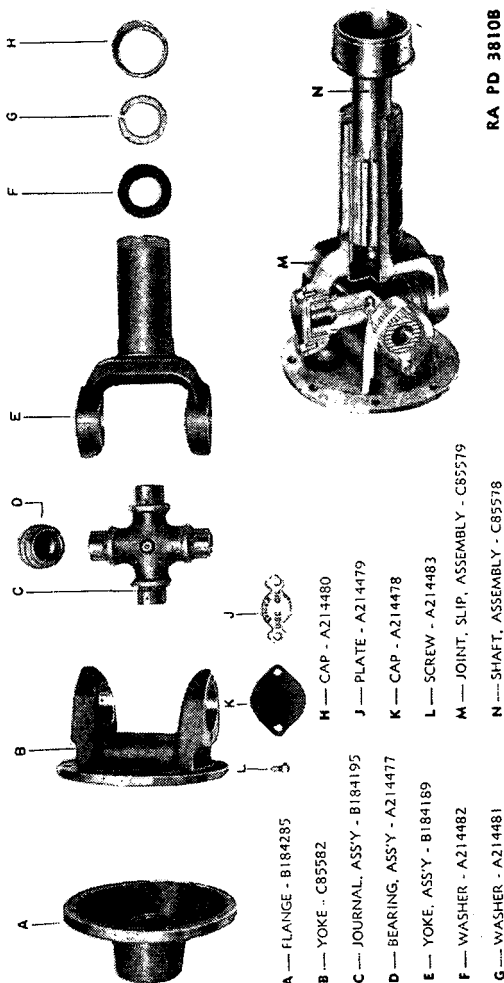

FIGURE 74.—Rear axle propeller shaft, exploded.
(4) Disassemble opposite universal joint. Follow steps (1) through (3) above.
(5) Remove slip joint. Unscrew dust cap (A160305) and pull slip joint (C85575) from shaft splines.
(6) Remove dust cap—screw driver. Lift cork washer (A160310) and split steel washer (A160309) out of cap, and slip cap over shaft splines (fig. 74).
*b. Rear axle (jackshaft) propeller shaft* (fig. 74).—Tools:  $\frac{1}{2}$ -inch socket wrench, brass drift, hammer, screw driver.
(1) Remove bearing caps—screw driver,  $\frac{1}{2}$ -inch socket wrench. Bend down locking tabs on lock plate (A214479) with a screw driver. Remove two cap screws (A214483) holding each bearing cap (A214478) and lock plate, and remove plates and caps.
(2) Disassemble remainder of shaft. Follow steps (2) through (6) in *a* above.